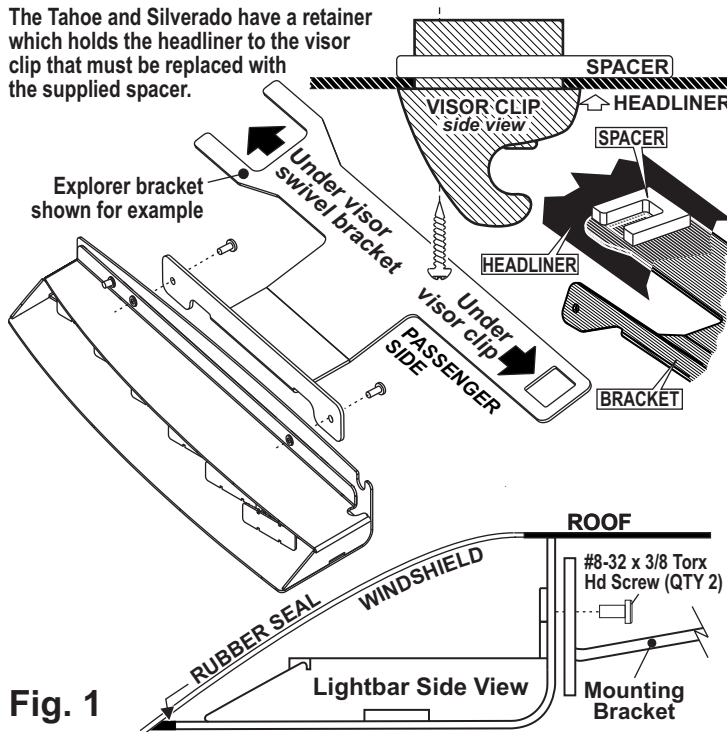

Fig. 1
- Position the keyed opening of the mounting bracket directly under the mounting location for the **visor clip** and remount the **visor clip** in its original location using the original hardware (Fig. 1).
- When properly mounted, the rubber seal will be in full contact with the vehicle windshield and roof. This is to prevent light output from entering the passenger compartment. When this has been achieved, tighten mounting hardware firmly to maintain contact (Fig. 1).